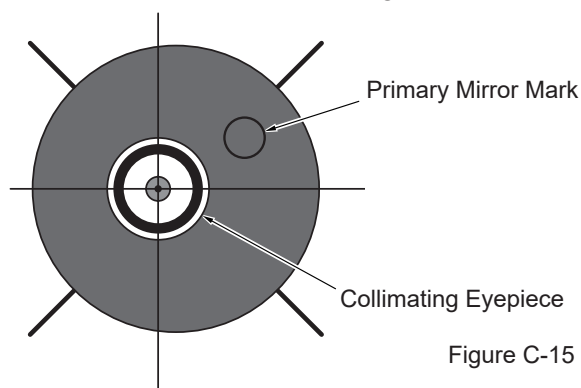

Figure C-15
To collimate the primary mirror, simply align the primary mirror mark with the secondary mirror mark. The primary mirror is adjusted by pushing and pulling the three collimating screw sets. Moving only one will deform the mirror and adversely affect its shape, so loosen the other two screw sets simultaneously. First, loosen the primary mirror collimating screws (3) on the side of the bottom ring. After adjusting the optical axis of the oblique mirror, if the primary mirror mark is off as shown in Fig. C-15, press the screw on the A side. While adjusting the other screws, adjust so that the primary mirror mark, the secondary mirror mark, and the collimating eyepiece are concentric as shown in Fig. C-16.